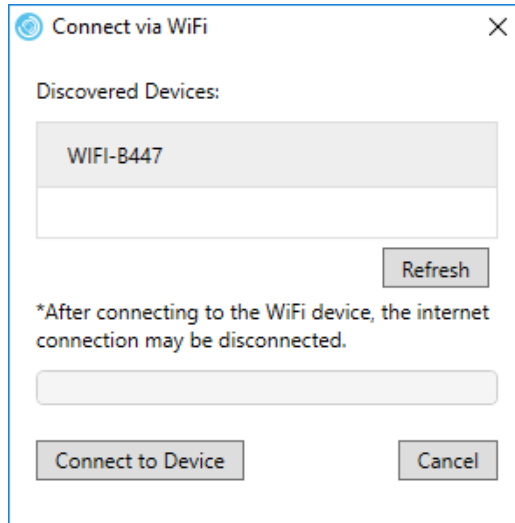

Figure 25. WiFi Adapter discovered
4. Click the Refresh button to locate the hotspot and then click the Connect to Device button as shown by Figure 25.